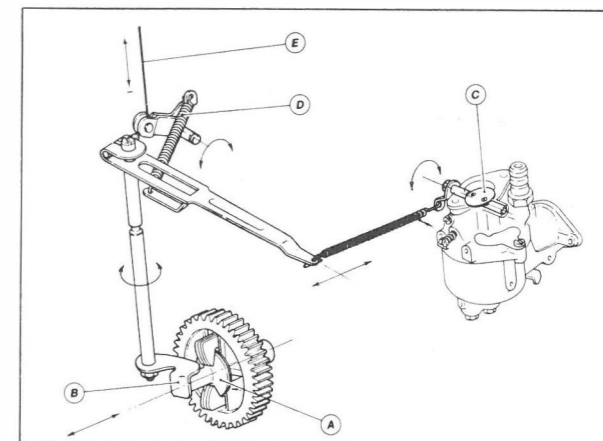

Fig. 30
- Mit Innenmessgerät zwei senkrecht zueinanderstehende Durchmesser (Abb. 30; a, b) der Kurbelwellenlagerbohrung, des Oldichtringsitzes und des Nockenwellenlagers auf drei verschiedenen Höhen abtasten.
Il est du type à masses centrifuges (Fig. 30). Les masses poussées par la force centrifuge déplacent axialement un poussoir (A) qui agit sur le levier (B) qui, au moyen d'un jeu de leviers, détermine la position du papillon (C) dans le carburateur.
Governor is of the centrifugal type, consisting of flyweights housed in the governor gear directly driven by the crankshaft (Fig. 30). Centrifugal force makes the weight move outwards pushing drive rod (A) sideways. Axial movement of drive rod (A) is transmitted by the lever (B) to the fuel throttle valve (C), through control linkages. Tension exerted by accelerator control (E) on governor spring (D) acts against the governor centrifugal force. Upon engine load variations at a fixed position of the accelerator, governor operates as follows: engine speed increases when load is taken off, centrifugal force pushes flyweights aside thus moving drive rod (A) outwards to reduce fuel feeding; engine settles to a slightly higher speed (droop). Speed drops when engine is loaded, reducing centrifugal force; the tension of the governor spring pushes the governor drive rod (A) inwards, thus increasing fuel feeding: engine speed slightly decreases and sets to a lower lever (governor droop).
Es handelt sich um einen Fliehkraftregler mit Zentrifugalmassen die sich in einem direkt von der Kurbelwelle angetriebenen Zahnrad befinden (Abb. 30).